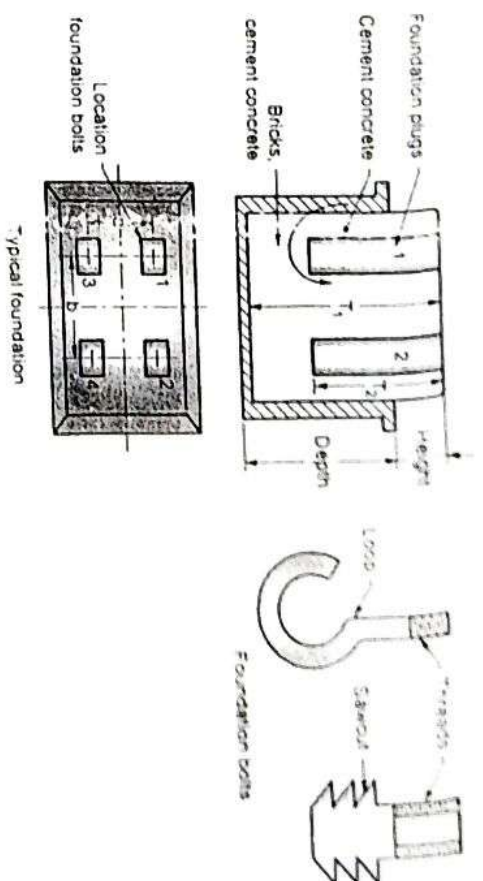

Fig. 6.3.2 : Foundation for rotating machine
- The foundation is necessarily cured for at least one week for increasing strength of cement concrete. The shape of foundation, foundation bolt and machine mounted on bed plate is shown the Fig. 6.3.2.